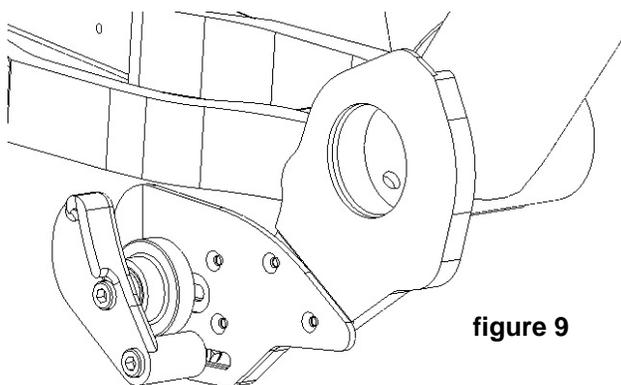

figure 9
8) Mount the chainguide assembly to the bicycle: For a normal installation, the counter bored area cups over the bottom bracket. **IMPORTANT!** Grease only the threads inside the BB shell of the frame. (Grease on the threads of the BB cup will pile up as the bottom bracket is inserted and get between the clamped surfaces). Use your flanged fixed cup type bottom bracket to sandwich the back plate against the flat face of the bottom bracket shell. Snug your flange type bottom bracket into the threads in the BB shell per normal BB installation. Follow the torque specification recommended by your frame manufacturer. The slider/ flip-flop roller assembly is correctly positioned at the point that the roller is just below the Bottom Bracket shell when the bike is on flat ground. Some frames require the roller to be set up lower. That is OK. See **figure 9** for correct orientation.